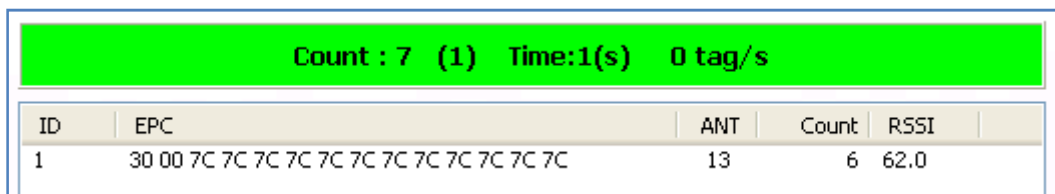

Figure 2.5
- c. Click “Inventory” and “Inv Once”. Show you in Figure 2.5.